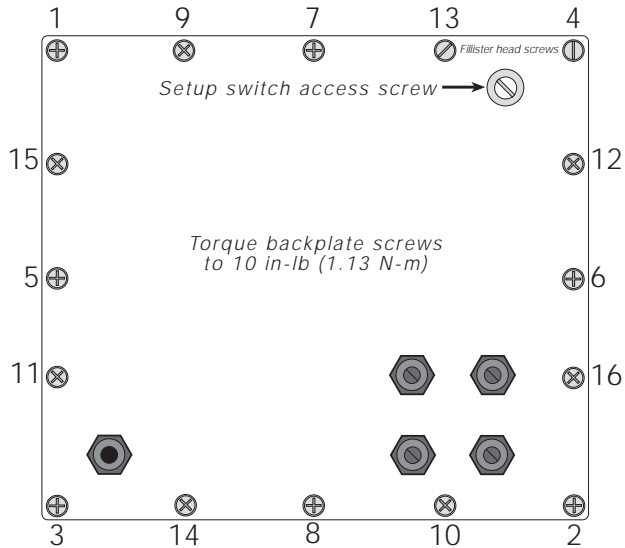

Figure 2-2. IQ plus 510 Enclosure Backplate
- Two 8-32NC x 7/16 fillister head screws (PN 30623). These screws occupy the holes above and on either side of the setup screw on the indicator backplate (see Figure 2-2 on page 6).
Once cabling is complete, position the backplate over the enclosure and reinstall the backplate screws. Use the torque pattern shown in Figure 2-2 to prevent distorting the backplate gasket. Torque screws to 10 in-lb (1.13 N-m).